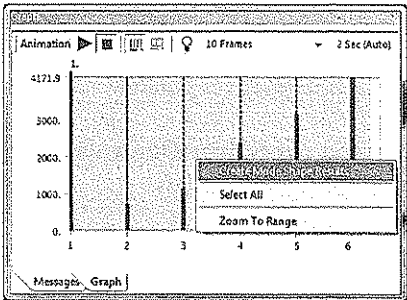

Figure 10-20 Choosing the Create Mode Shape Results from the shortcut menu displayed
4. Choose the **Create Mode Shape Results** option from the shortcut menu displayed, refer to Figure 10-20; Total Deformation results are added under the **Solution** node in the **Tree Outline** with the names: **Total Deformation**, **Total Deformation 2**, - - - **Total Deformation 6**. Also, you will notice that there are yellow thunderbolts attached to each one of them indicating that these results need to be evaluated.